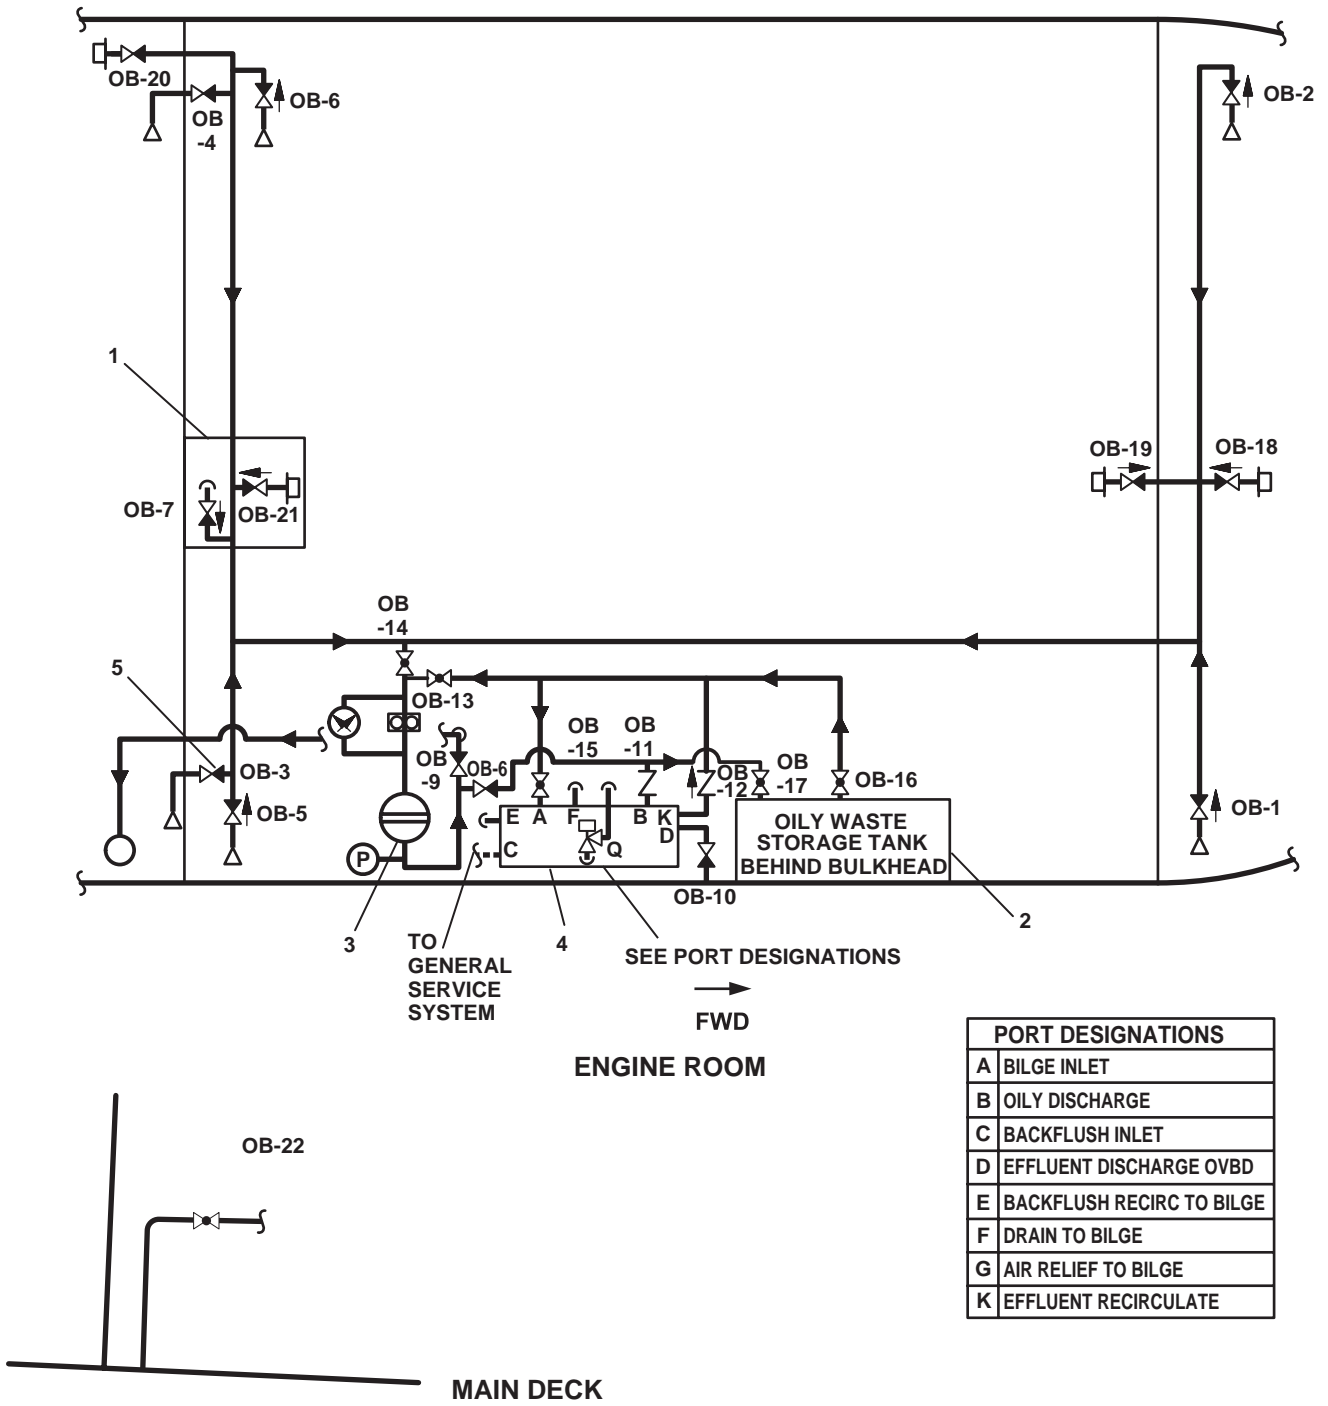

Figure 2. Oily Bilge System
The oily water system components consists of: an oily waste drain tank (figure 2, item 1), an oily waste storage tank (figure 2, item 2), an oily waste discharge pump (figure 2, item 3), an Oil Water Separator (OWS) (figure 2, item 4), and an Oil Content Monitor (OCM).
The oily waste drain tank (figure 2, item 1) receives and stores waste discharge from the lube oil purifier and engine sumps. Oily waste is transferred to the oily waste storage tank (figure 2, item 2).
The oily waste storage tank (figure 2, item 2) provides a holding tank that supplies oily water to be processed by the OWS (figure 2, item 4). The oily waste storage tank also receives the oil output from the OWS. When appropriate, the oily waste discharge pump (figure 2, item 3) can empty the oily waste storage tank through the shore connection (figure 2, item 5).
The oily waste discharge pump (figure 2, item 3) is an air powered diaphragm pump. The compressed air used to drive the pump is provided by the ship's service air system. The oily waste discharge pump's suction can be directed to either the piping system or the oily waste drain tank (figure 2, item 1). The oily waste discharged pump's suction can also be used for removing oily water from the bilges and to transfer the contents of the oily waste drain tank or the oily waste storage tank (figure 2, item 2) or to a shore connection.
The OWS (figure 2, item 4) separates and removes oil from bilge water. Two outputs from the OWS are provided. Power is supplied to the OWS from the main switchboard. The oil-water separation is accomplished in two stages.
The inlet baffle redirects the flow of oil droplets away from the upper coalescer bed. The inlet weir separates the oil accumulated in the tank from the inlet flow. Oil droplets that flow past the inlet baffle accumulate on the polypropylene granules (beads) in the coalescer beds. The polypropylene granules attract oil and repel water (oleophobic-hydrophobic), allowing water to flow through while the oil remains are temporarily trapped in the coalescer granules. The lower coalescer bed functions like the upper coalescer bed but is thinner and acts like a polishing bed. The water space between these beds isolates them, preventing contamination of the lower by the upper. The clarified effluent, having passed through both coalescer beds, is drawn through the outlet in the OWS's (figure 2, item 4) bottom.
Clean water enters the OWS's (figure 2, item 4) tank bottom, back flushing the coalescer beds and displacing the accumulated oil in the upper tank zone. This oil is discharged through the oil discharge check valve. Oily waste is pumped into the oily waste storage tank (figure 2, item 2). Clear water is discharged overboard. When the oil content in the overboard discharge exceeds acceptable standards, the water discharge is automatically redirected to the oily waste storage tank (figure 2, item 2).
An Oil Content Monitor (OCM) is provided inline the OWS's (figure 2, item 4) discharge line. When the oil content in the overboard discharge exceeds acceptable standards, the water discharge is automatically redirected to the oily waste storage tank (figure 2, item 2) for retreatment. The oil content level is preset. A solenoid-activated valve determines the discharge direction of the overboard discharge.
The oily waste drain tank (figure 2, item 1) receives and holds the waste discharge from the lube oil purifier and engine sumps. Oily waste is transferred via the oily bilge piping system and the oily waste discharge pump (figure 2, item 3) to the oily waste storage tank (figure 2, item 2). The oily waste storage tank supplies oily water to be processed by the OWS (figure 2, item 4). The oily waste storage tank also receives the oil discharged from the OWS. The eductor discharges the treated water overboard. When appropriate, the oily waste discharge pump can empty the oily waste storage tank through the shore connection (figure 2, item 5). If the OCM detects that the oil content in overboard discharge exceeds (the preset) acceptable standards, the water discharge is automatically redirected back to the oily waste storage tank.